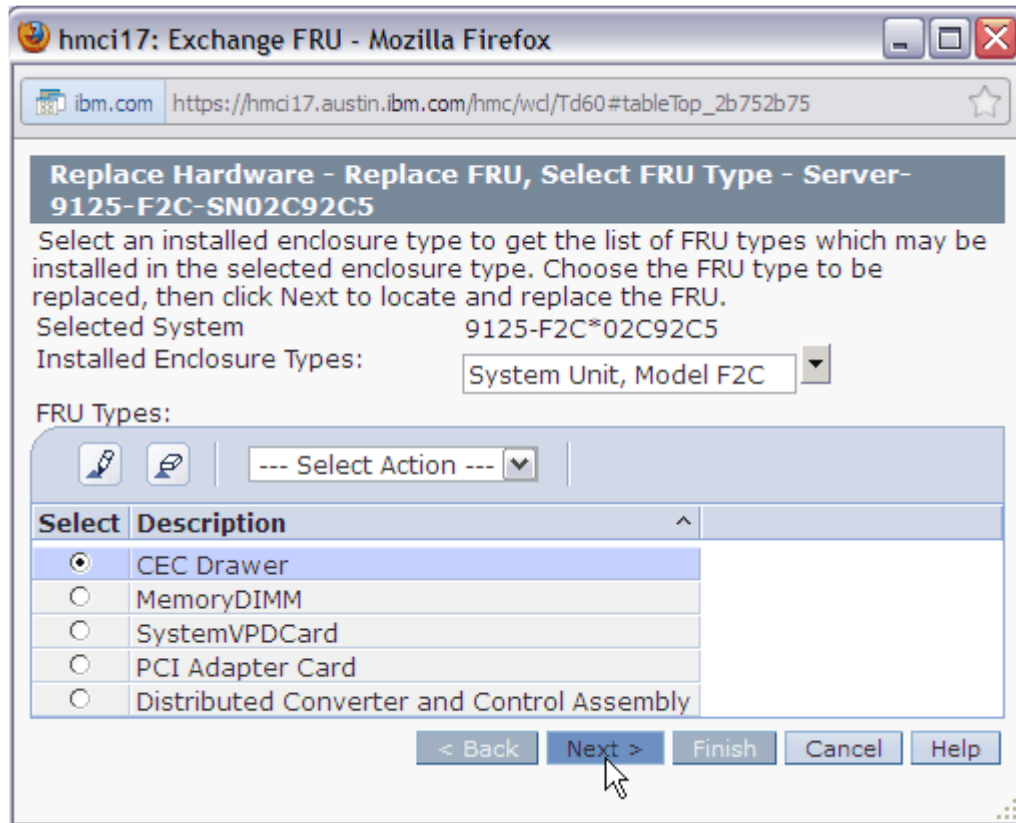

Figure 7 CEC Drawer Selection
STEP 11 In the Replace **Hardware – Replace FRU, Select FRU Type** window *select CEC Drawer* then *click the Next* button. See Figure 7 . Note: This CEC Drawer procedure is being used to Power off the CEC Drawer being serviced(removing 350V)